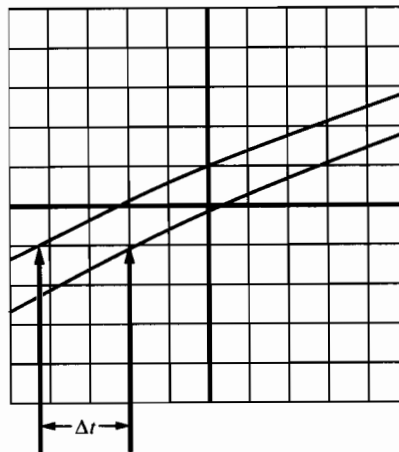

Figure 25–4
- (d) Spread the signal horizontally using the SEC/DIV control until both signals are just visible across the screen. The SEC/DIV control must remain calibrated. Measure the time between the two signals, Δt , by counting the number of divisions along a horizontal graticule of the oscilloscope and multiplying by the SEC/DIV setting. (See Figure 25–4.) Record the measured Δt in Table 25–3.